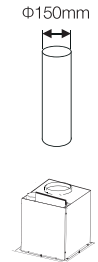

Fig.9
- Fit the flexible flue to the duct transition (Fig.9). Use fixing tape to secure flexible pipe to the duct transition.